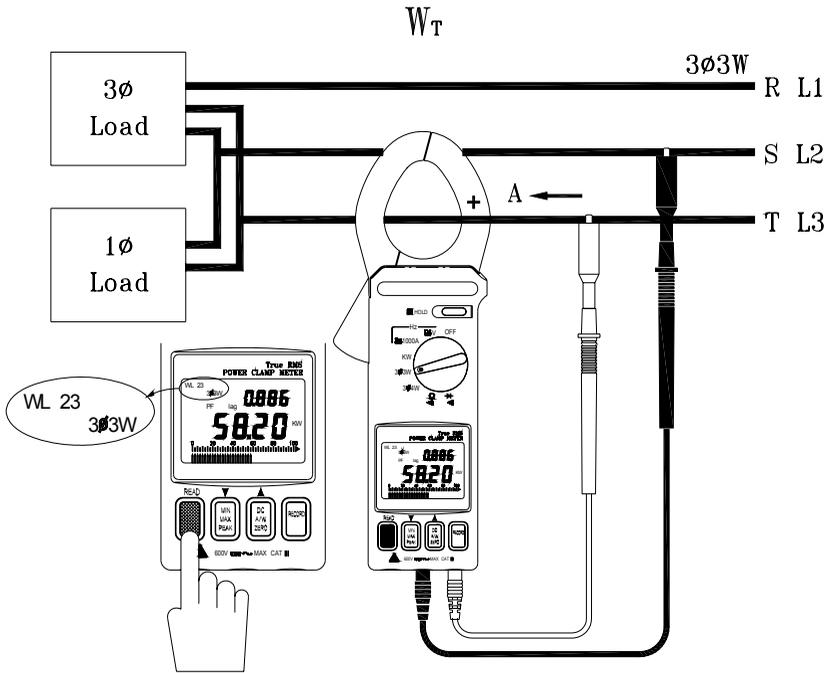

Figure 5
B. Measure $W_{TS(L3L2)}$ (refer to figure 5).